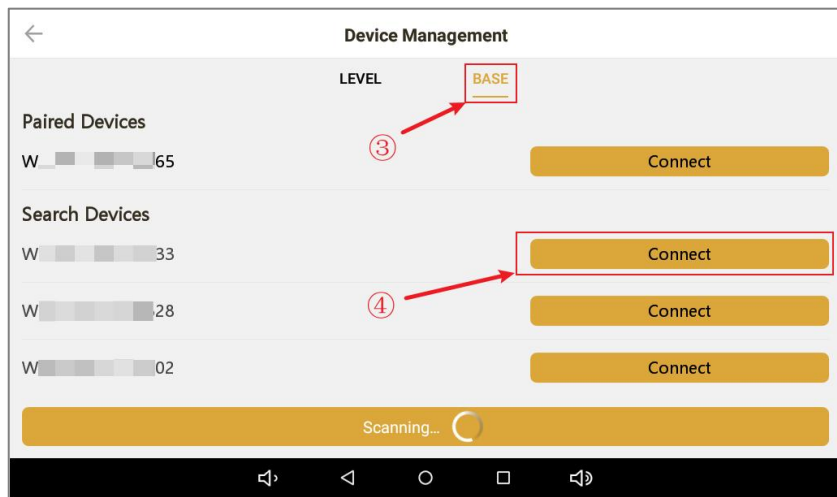

Figure 2-4
- ② Connect to the base station via Bluetooth: Tap Bluetooth again. This time, as shown in Figure 2-4, switch to the BASE tab, then tap Connect next to the corresponding SN number. The base station SN is printed on the device label.